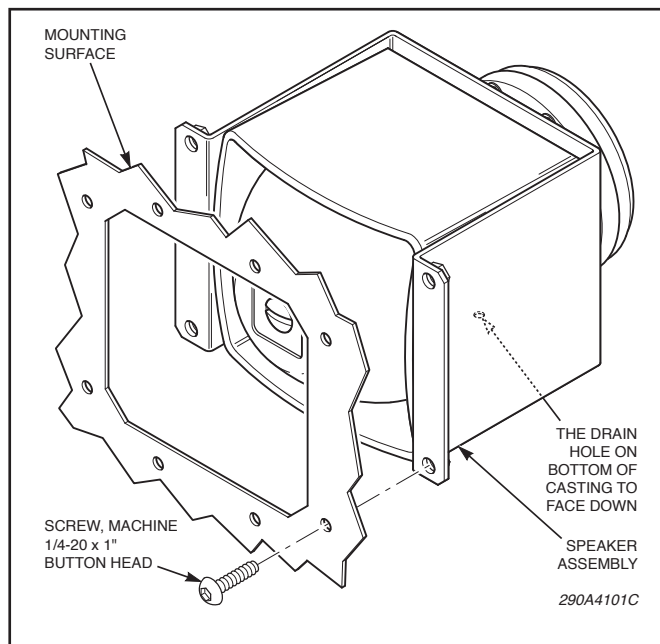

Figure 2.
3. See figure 2. Place the speaker in position on the rear side of the mounting surface. Secure the speaker in position using four 1/4-20 x 1" button head screws.